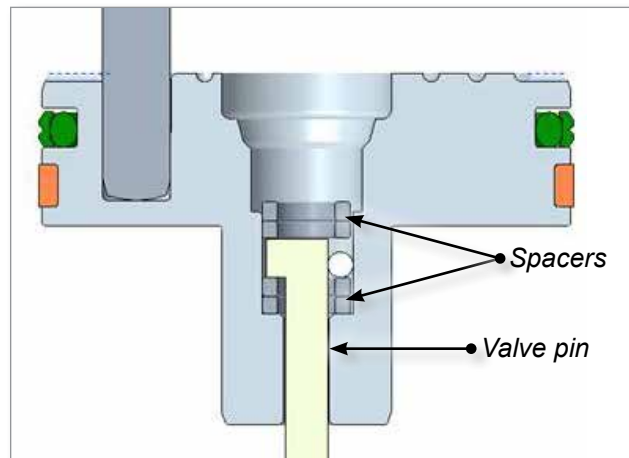

Figure 4-23 Install valve pin and spacers
6. Install the remaining two valve pin spacers (thickness = 2.0 mm and 2.3 mm) on top of the valve pin. See Figure 4-23.